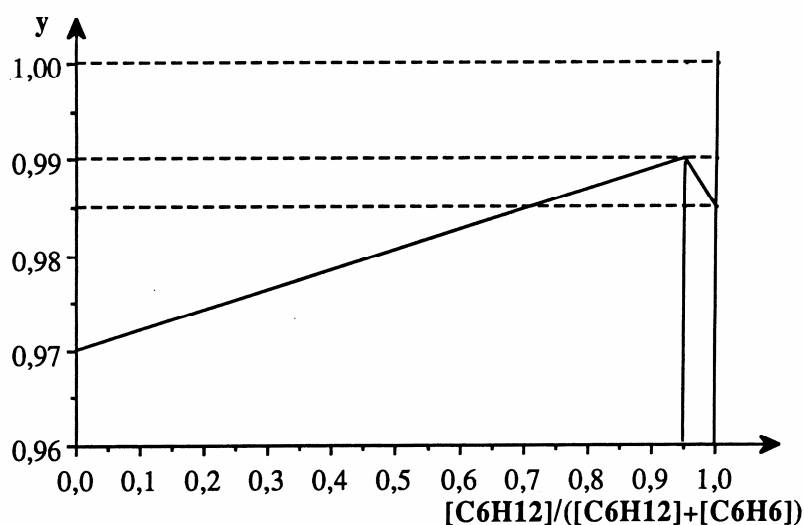

Fig. 3
The relationship between p and Y is shown in Fig. 3.
- 7.3** Represent by grey shading in the graph (Fig. 3) the quantities of benzene lost in installation P (plug flow reactor) and installation MP (stirred reactor + plug flow reactor).